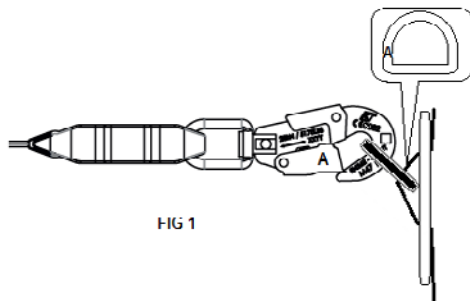

FIG 1
5. The lanyard extremity is connected at the safety harness D-ring on the back by means of a permanent automatic connector (M47) according to EN 362:2004 (fig.1). Using an extension between the safety harness D-ring and the blocfor is forbidden. It is possible to connect blocfor™ 1.8 on the anchor point at the front and back of the harness.